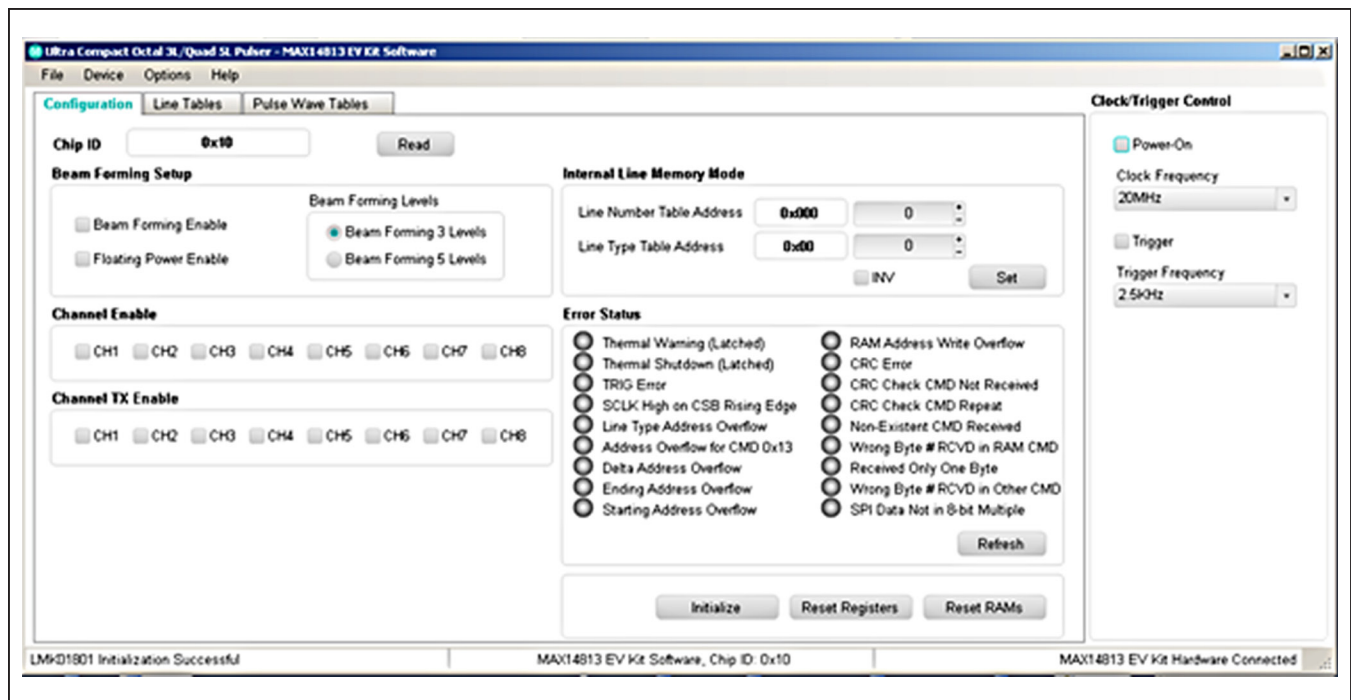

Figure 1. MAX14813 EV Kit Software Startup Window
- 7) Once the hardware is ready to use, launch the EV kit software by opening its icon in the **Start | Programs** menu. The EV kit software appears as shown in Figure 1. The EV kit software will automatically connect to the EV kit hardware and lower-right status bar should indicate **“MAX14813 EV Kit Hardware Connected”**. Otherwise from the **Device** menu select **Connect Hardware**. Verify that the lower-right status bar indicates the EV kit hardware is **Connected**.